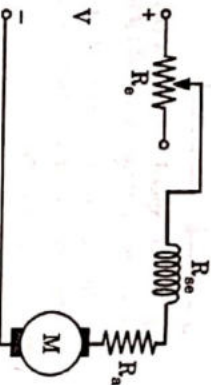

Fig. 3.11.5. Speed-control of a DC series motor by armature resistance control.
- Fig. 3.11.5 shows the method of connection of external resistance R_e in the armature circuit of a DC series motor.